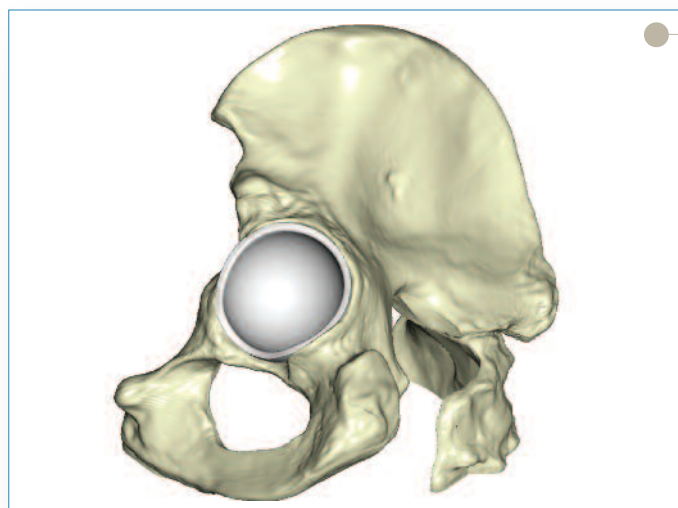

Figure 11
► **Cup Placement:** Locate the reference mark made previously on the acetabulum. Position the cup according to the preset reference mark. Positioning the cup according to the preset reference mark will ensure proper anatomic cup placement. Impact the cup into the acetabulum with the slotted mallet (1120-1000) (Figure 11). Once the cup is securely impacted, remove the cup holder from the cup by turning the cup holder rod counter-clockwise and pulling the cup holder backwards with minimal force.